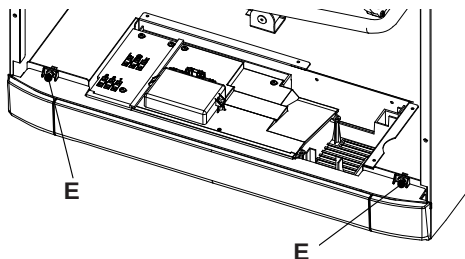
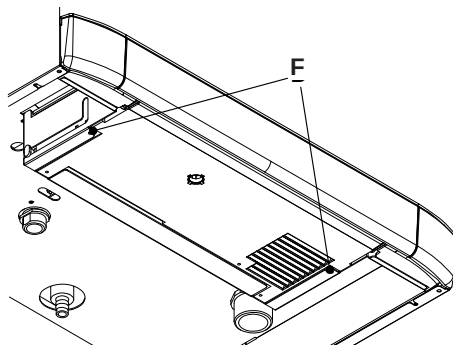

Fig. 5.19
Fig. 5.20
- quite los tornillos (E) in Fig. 5.19 e (F) in Fig. 5.20;